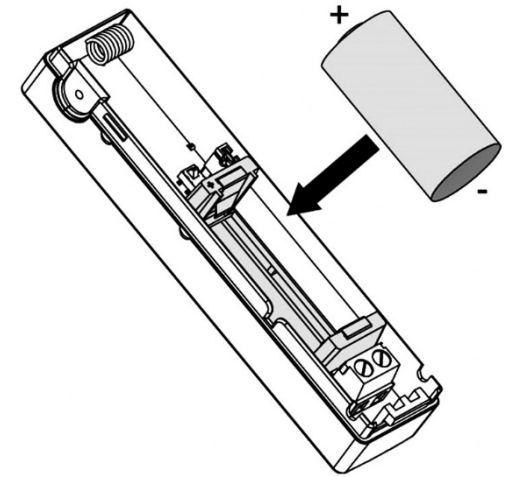

Figure 2
4. Place a battery as instructed in Figure 2 and wait until the Green LED stops blinking.